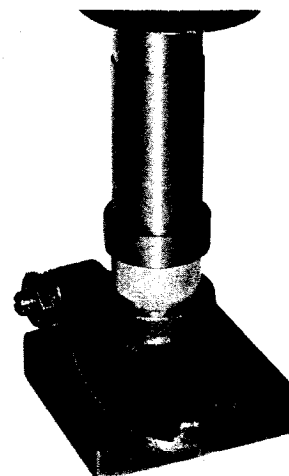

Fig. 3-6, (N20306). Installing rocker lever bushing
6. Install new bushing with ST-691 and arbor press. Fig. 3-6.